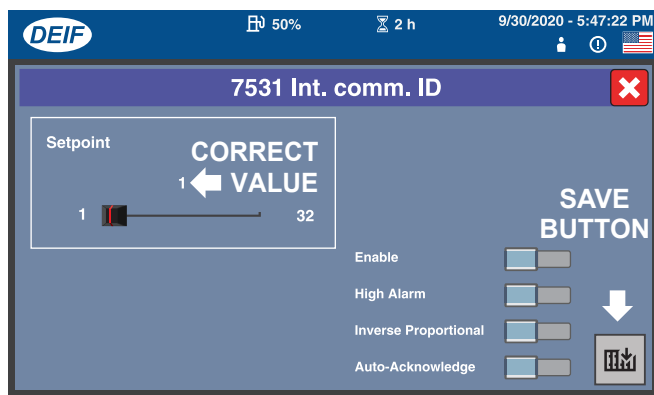
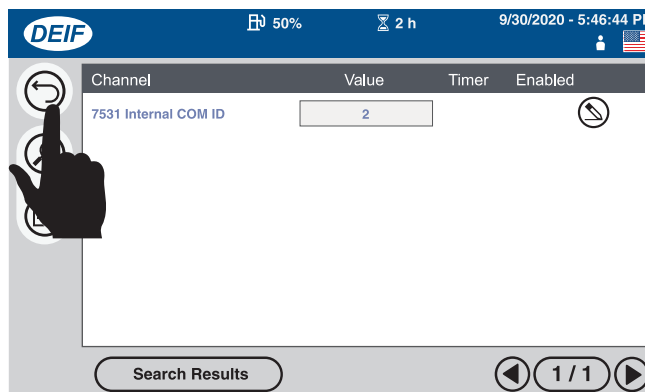
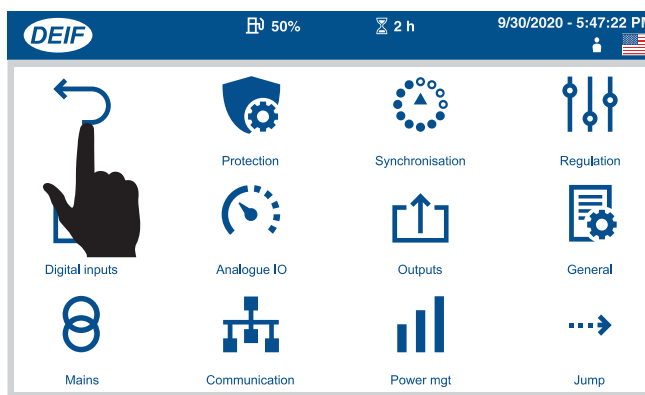

Figure 105. Internal Communication ID Screen (Value Entered)
Figure 106. Search Results Screen (Return Button)
Figure 107. Controller Settings Groups Screen (Return Button)
16. Verify that the **Internal Communication ID** screen is displayed with the correct **Internal Communication ID** value (Figure 105).
17. Press the **Save button** (Figure 105). The touch display will return to the **Search Results** screen (Figure 106).
18. Press the **Return** button (Figure 106) to return to the **Controller Settings Groups** screen. See Figure 107.
19. Press the **Return** button (Figure 107) to return to the **Home screen (1 of 7)** on the touch display.